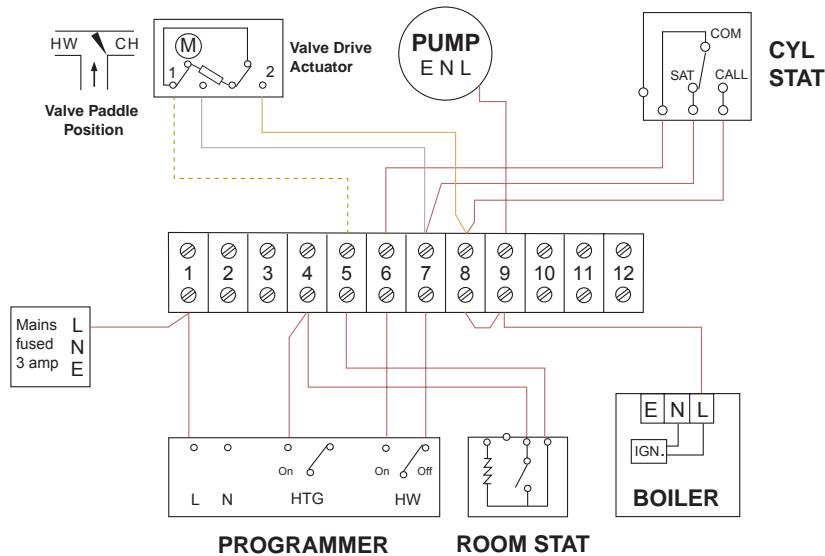

Fig. 6. Wiring for mid-position valve system - valve de-energised with both room and cylinder stats satisfied. N and E connections not shown for clarity
In Fig. 6, both room and cylinder thermostats are shown satisfied and both Heating and DHW are timed 'Off'. The valve (top left) is closed to CH.
a) Valve motor (Fig. 6) receives full power via brown/white lead (terminal 5) and through valve switch 1. (Although switch 1 is linked to switch 2, a resistor inhibits supply to the motor.)